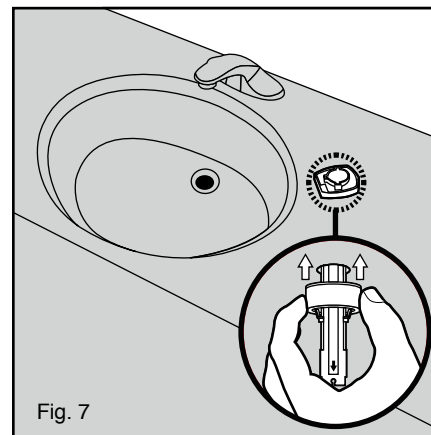

Fig. 7
8. Remove the adhesive liner from the plastic support ring and from the underside of the countertop, slide it thru the support shaft and push it until up until it sticks to the underside of the countertop (see figure 7).